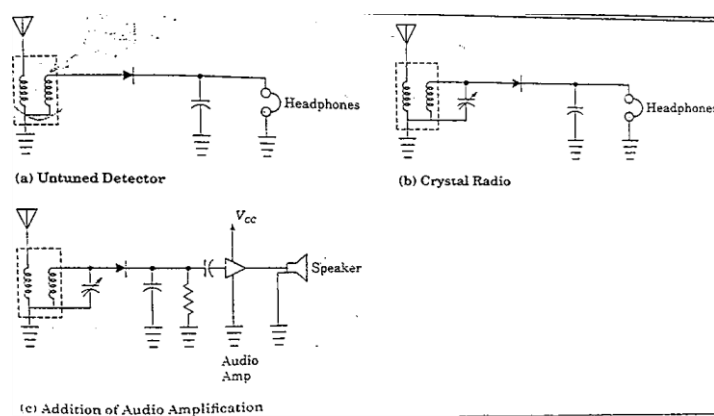

Fig. 9-1 Simple AM Receivers
- 1- **Untuned detector** the simplest receiver would be an envelope detector connected directly to an antenna, as in Fig.9-1(a). Any AM signal arriving at the antenna would be demodulated, and the detector output would be connected to sensitive headphones. There are no sensitivity and selectivity.
- 2- **Crystal Radios** this receiver could be improved by adding a tuned circuit at the input, as shown in Fig.9-1(b). This would provide some selectivity; that is, the receiver could be tuned to a particular station. Signals at the resonant frequency of the tuned circuit would be passed to the detector, and those at other frequencies would be attenuated and it is still no gain.
- 3- **Addition of an audio amplifier**, as shown in Fig.9-1(c), could provide enough output power to operate a speaker. However, the selectivity will remain poor because of the single tuned circuit, and the receiver will not be sensitive enough to receive weak signals. This is because a diode detector needs a relatively large input voltage to operate efficiently, with low noise and distortion.